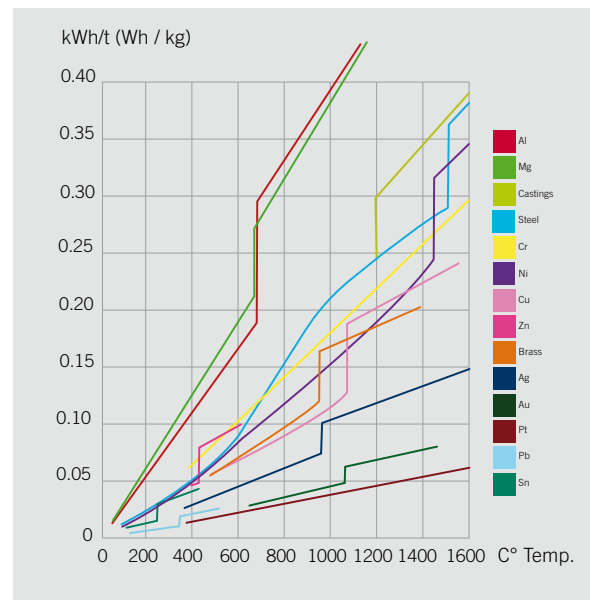

Fig. 1. Energy absorption rates for different materials
Step 1 First determine the material's energy absorption rate. Fig. 1 shows rates for some common materials.